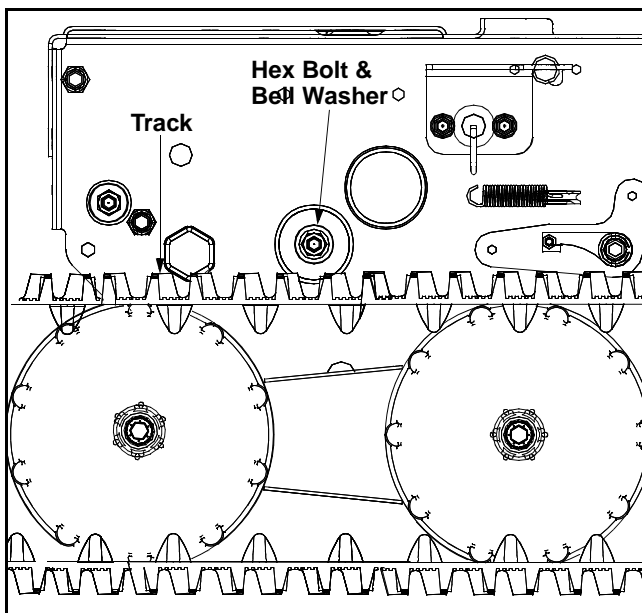

Figure 17
- Using a 7/8" wrench to hold the shaft, loosen, but do not completely remove, the hex bolt and bell washer on the left end of gear shaft. See Figure 17.